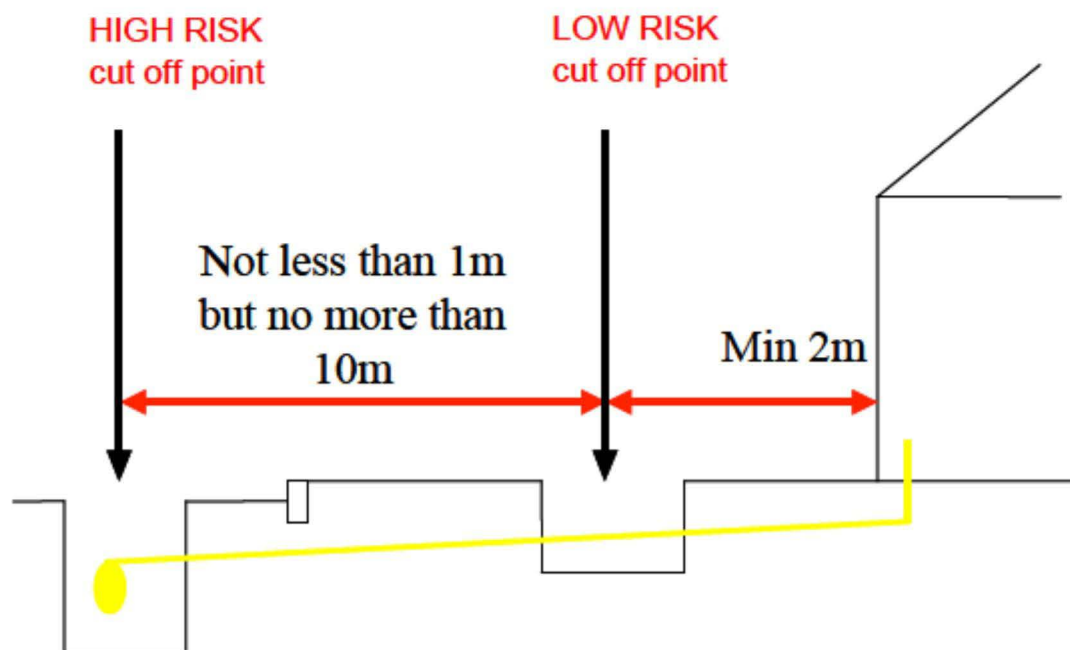

Figure A37b: Preferred cut off point at a location of lower risk than isolation at the main if utilising LSI technique.
3. Using the LSI technique then refer to Figure A37b and follow the normal LSI procedure with these exceptions: